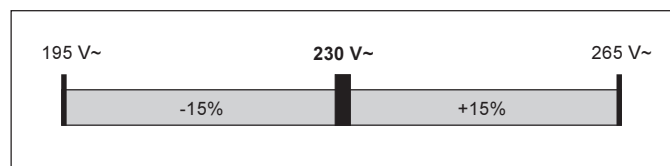

Fig. 12 Tolerance range of the mains voltage
N.B.! The voltage delivered by the generator must NEVER overshoot or undershoot the range shown in Fig.12 .